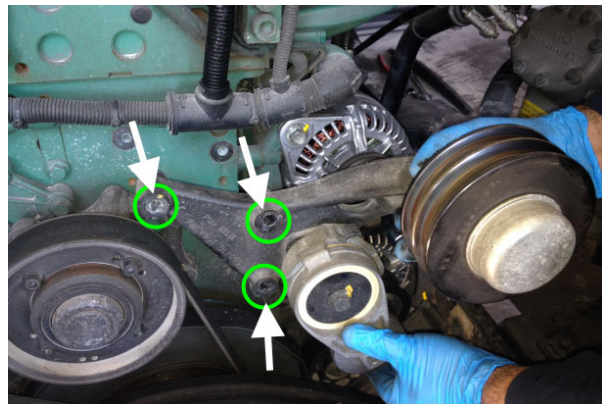

FIGURE 1
1. Remove the A/C compressor belts and then remove A/C compressor idler pulley bracket assembly (3 bolts to be removed, FIGURE 1).